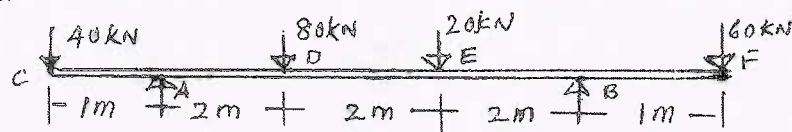

Fig. Q5 (b)
b. Draw SFD and BMD for a overhanging beam loaded as shown in Fig. Q5 (b). Indicate all salient features. (12 Marks)